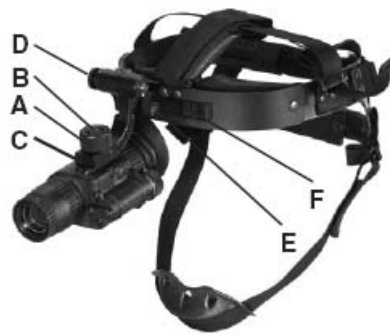

Figure 3-1
2. Align the monocular and the weapon mount. Slide the monocular rearwards until the alignment boss aligns with the alignment groove on the weapon mount. Push until the monocular locks into the weapon mount (Figure 3-1).